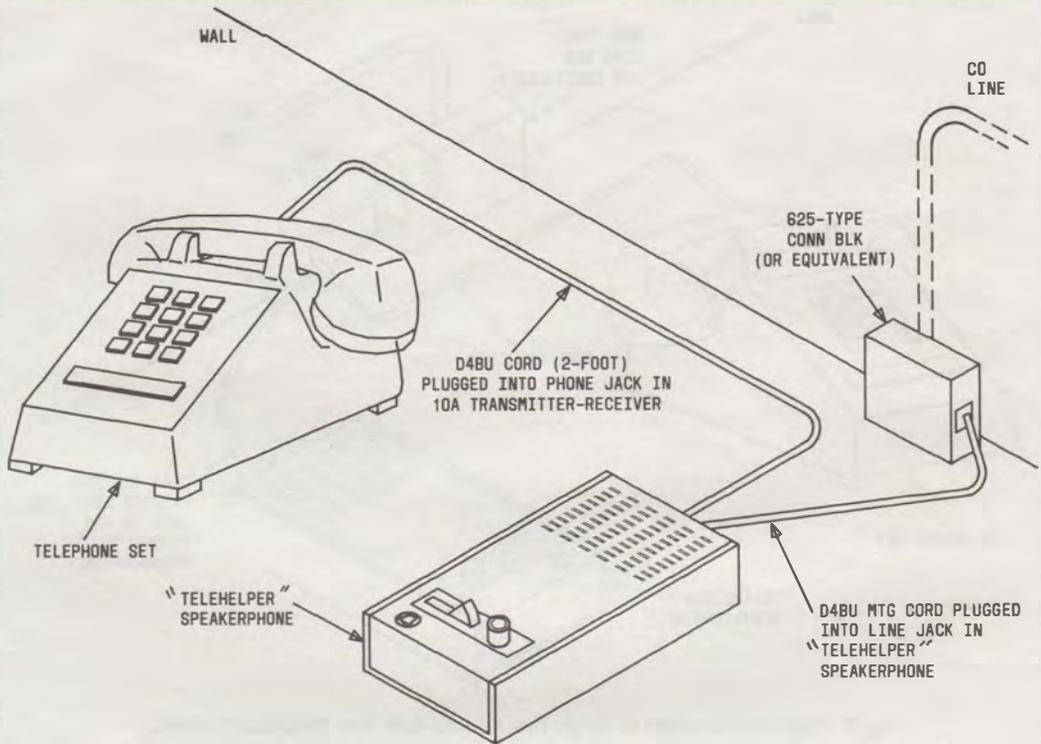

Fig. 6—Recommended Installation for Single Line Modular Desk Type Telephone Set
A. **Standard Installation of Single Line Desk Telephone (Fig. 6)**
3.05 Plug the (2 foot) D4BU-29 mounting cord into speakerphone jack marked PHONE. Run cord through cord slot and plug other end of cord into associated telephone set (Fig. 6).